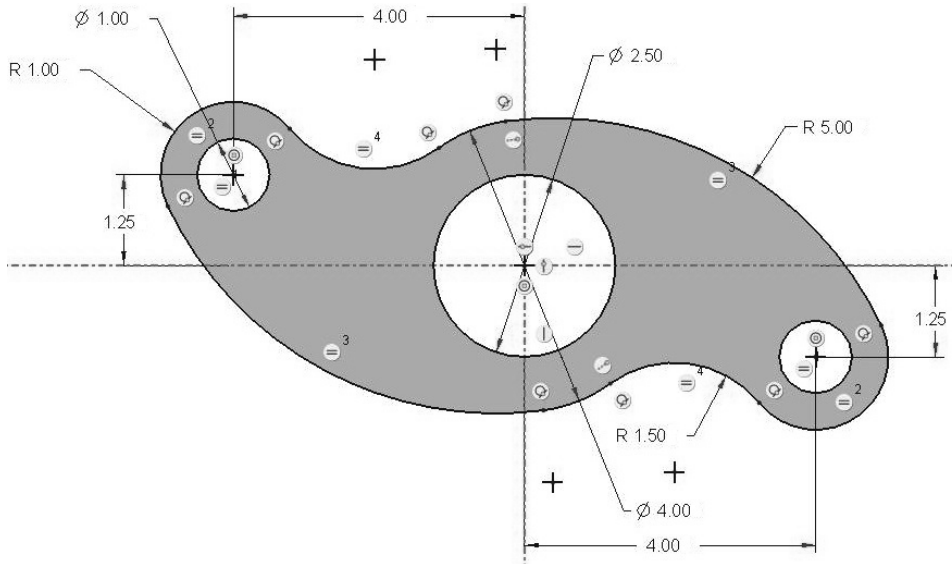

Figure 3-74 Problem 5—Rocker
- 3.5 Draw the front view of the "rocker" (Figure 3-74). Draw the centerlines first. **Design Intent**—The rocker is symmetric about the center hole. The right 1.00-inch diameter hole must be 4.00 inches right of the center hole and 1.25 inches below it. The left 1.00-inch diameter hole must be 4.00 inches left of the center hole and 1.25 inches above it. The arcs that form the perimeter are tangent to each other. **Hint:** draw circles tangent to each other, then trim them to form the arcs. Note that there are four different radius arcs 1.00, 1.50, 2.00 (diameter = 4.00), and 5.00. (>File>Options>Sketcher, change to 2-decimal places before sketching.)